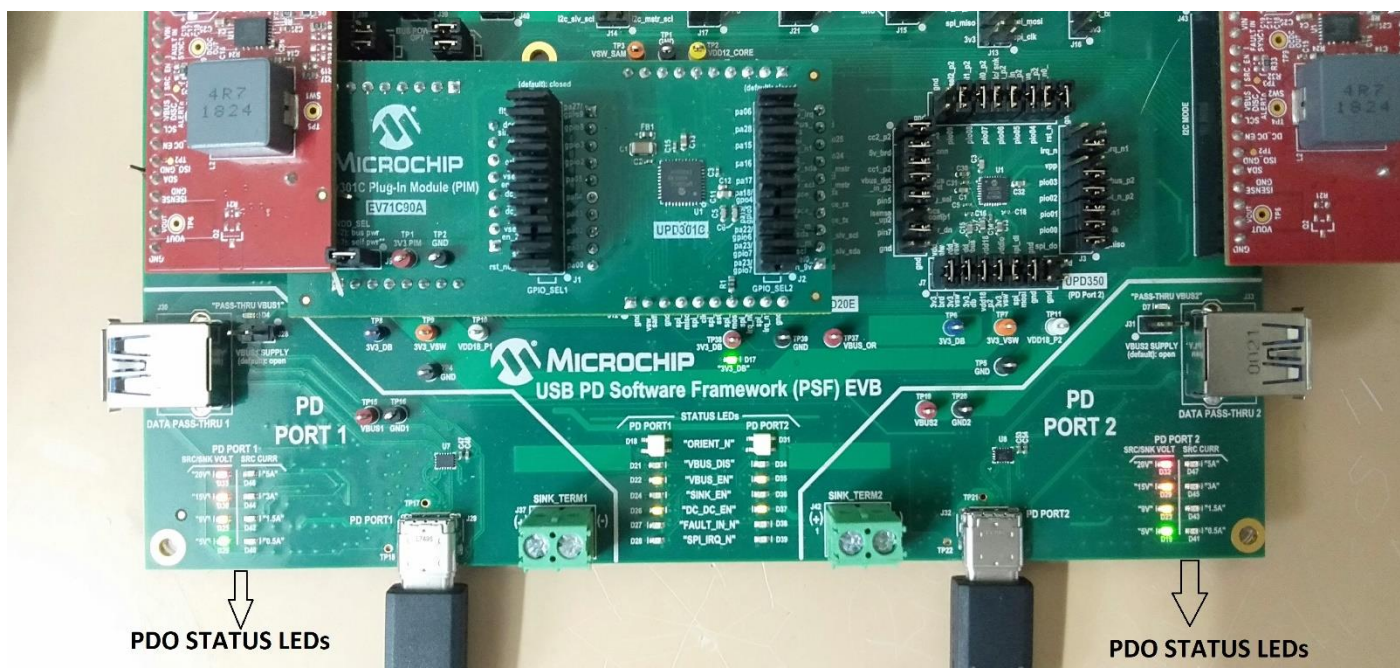

Figure 7.2 PDO Status LEDs after device attach
4. Once an explicit power contract negotiation is in place, the device starts charging. PDO status LEDs will turn ON indicating the negotiated voltage as shown in Figure 7.2
5. In our case, Microchip's UPD301C Basic Sink AE connected in Port 1 and Port 2 and have requested 20V. The status of PDO status LEDs is shown in Figure 7.2